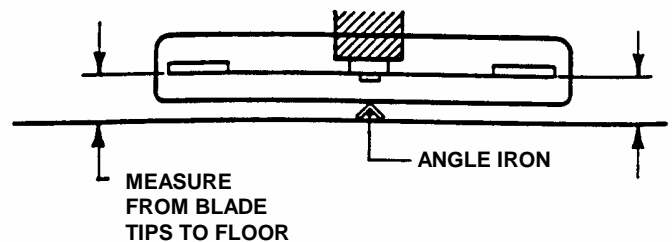

FIGURE 4.8
7. Measure distance from blade tip to floor on each side of deck. Blade tips should be within 1/8" of each other for the deck to be considered level. See Figure 4.8.